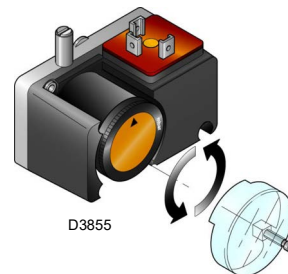

Fig. 28
- Adjust the minimum gas pressure switch (Fig. 28 on page 28) to the start of the scale.
Adjust the minimum gas pressure switch (Fig. 28) after having adjusted the burner, the gas valves and the gas train stabiliser. With the burner operating at maximum output: